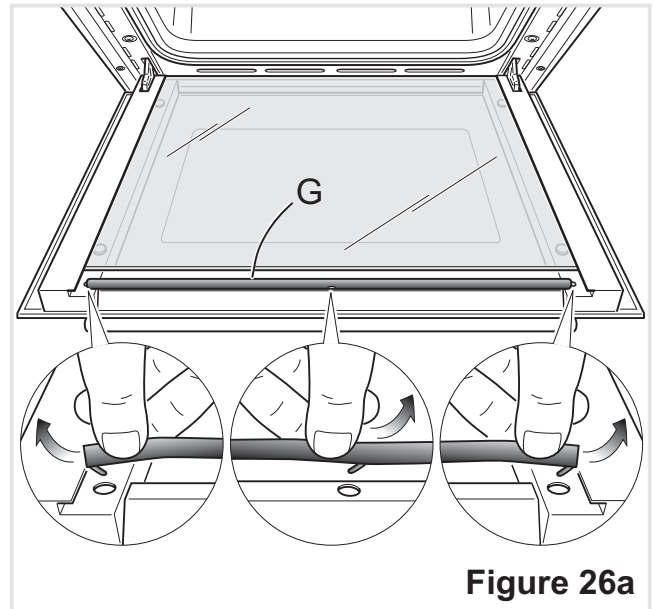

Figure 26a
- Remove the seal “G” by unhooking the no. 3 fixing hooks (fig. 26a).